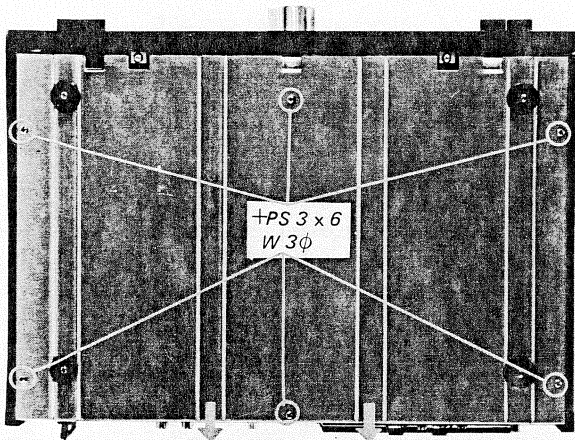

Fig 2-2 Bottom plate removal
2. Remove the six screws (+PS 3 X 6) at the bottom of the tuner and pull the bottom plate in the direction indicated by the arrow in Fig. 2-2.